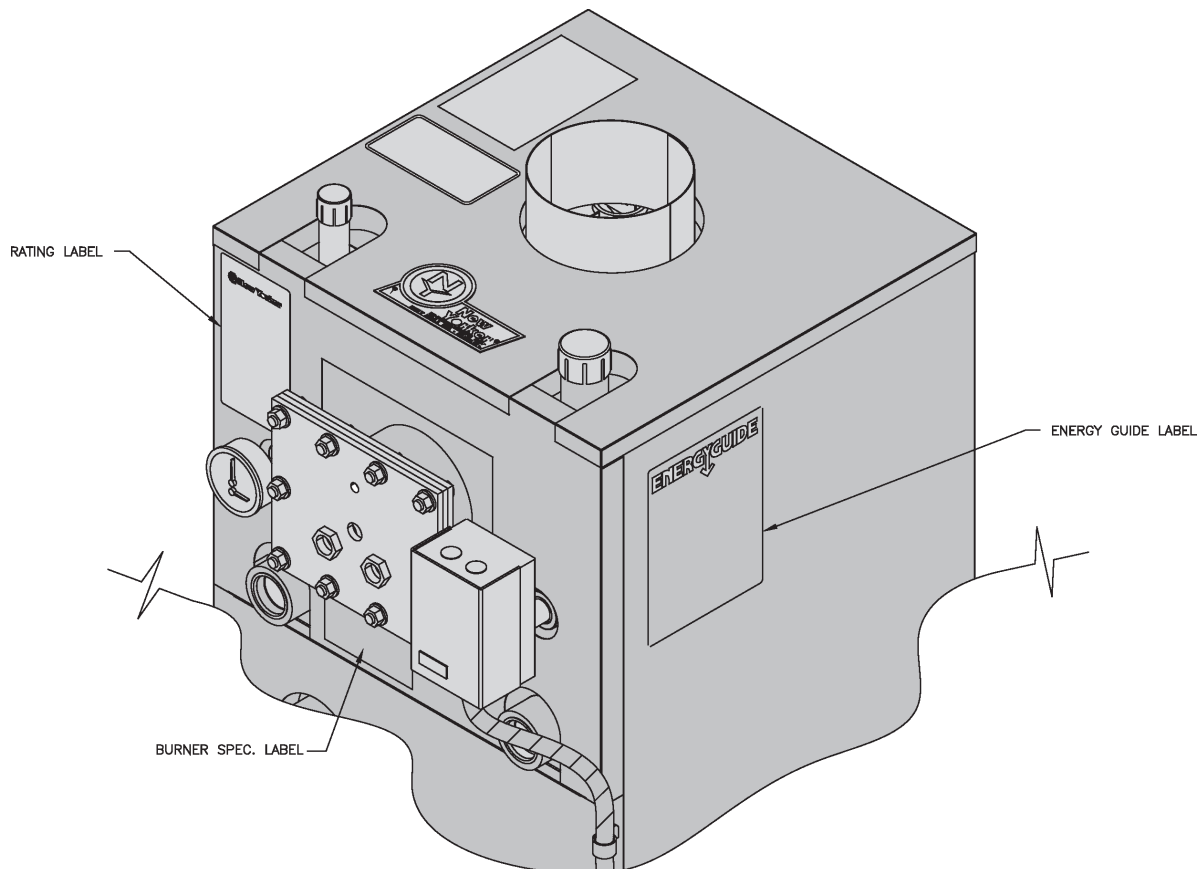

Figure 6: Label Locations
9. Attach labels per Figure 6.